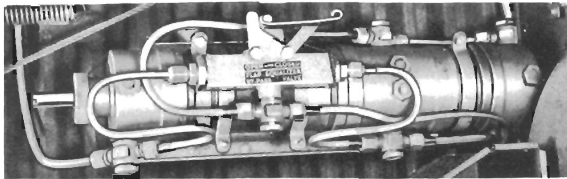

Figure 10—Hydraulic Equalizer Valve
(9) **WING FLAP CONTROL.**—The wing flaps are actuated by engine hydraulic pressure with provision for emergency hand pump operation. They are actuated by means of the flap control switch (figure 9-2). The pressure on the flaps is equalized by means of the hydraulic equalizer valve located on the floor to the right of the pilot's seat (see figure 10). This valve insures that the two flaps come down or go up together.